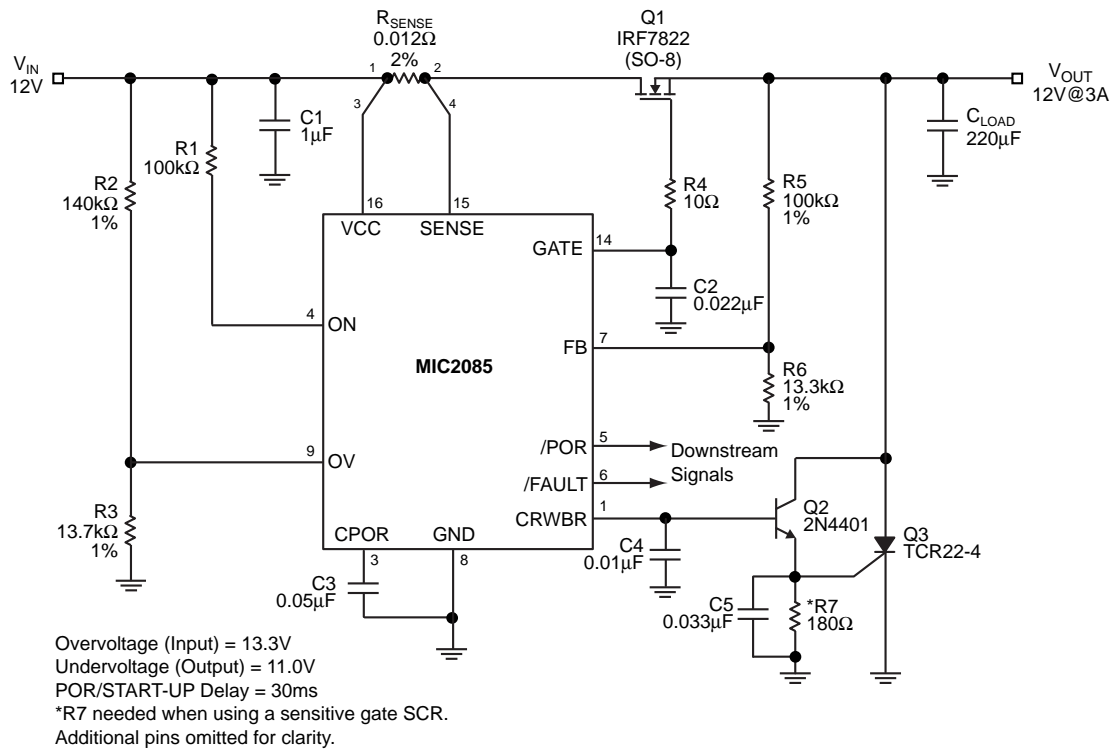

Figure 5. Undervoltage/Overvoltage Circuit
For output undervoltage detection, the first consideration is to establish the output voltage level that indicates “power is good.” For this example, the output value for which a 12V supply will signal “good” is 11V. Next, consider the tolerances of the input supply and FB threshold (V_{FB}). For this example, the 12V supply varies $\pm 5\%$, thus the resulting output voltage may be as low as 11.4V and as high as 12.6V. Additionally, the FB threshold has $\pm 50\text{mV}$ tolerance and may be as low as 1.19V and as high as 1.29V. Thus, to determine the values of the resistive divider network (R5 and R6) at the FB pin, shown in Figure 5, use the following iterative design procedure.
The external CRWBR circuit shown in Figure 5 consists of capacitor C4, resistor R7, NPN transistor Q2, and SCR Q3. The capacitor establishes a time duration for an overvoltage condition to last before the circuit breaker trips. The CRWBR timer duration is approximated by the following equation:
where V_{CR} , the CRWBR pin threshold, is 0.47V and I_{CR} , the CRWBR pin current, is $45\mu A$ during the timer period (see the CRWBR timer pin description for further description). A similar design approach as the previous undervoltage detection example is recommended for the overvoltage protection circuitry, resistors R2 and R3 in Figure 5. For input overvoltage protection, the first consideration is to establish the input voltage level that indicates an overvoltage triggering a system (output voltage) shut down. For this example, the input value for which a 12V supply will signal an “output shut down” is 13.2V (+10%). Similarly, from the previous example:
multi-layer layout for the R_{SENSE} , Power MOSFET, timer(s), overvoltage and feedback network connections. The feedback and overvoltage resistive networks are selected for a 12V application (from Figure 5). Many hot swap applications will require load currents of several amperes. Therefore, the power (V_{CC} and Return) trace widths (W) need to be wide enough to allow the current to flow while the rise in temperature for a given copper plate (e.g., 1 oz. or 2 oz.) is kept to a maximum of $10^{\circ}\text{C} \sim 25^{\circ}\text{C}$. Also, these traces should be as short as possible in order to minimize the IR drops between the input and the load. For a starting point, there are many trace width calculation tools available on the web such as the following link: